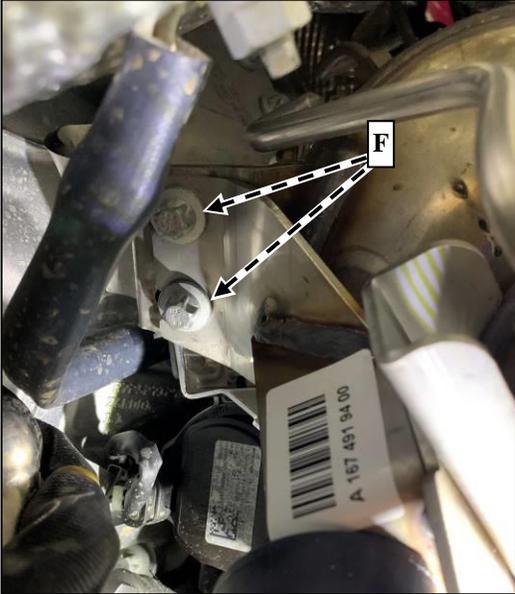

Figure 6
2.5. Tighten bolts (F) for the vibration damper bracket to the catalytic converter bracket (Figure 6).